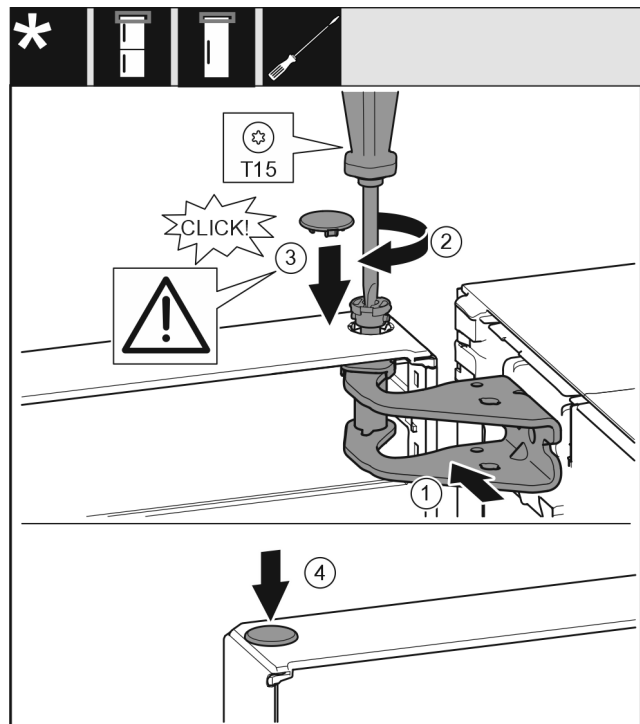

Fig. 22
- Align the top of the door with opening in the bearing bracket. Fig. 22 (1)
- Insert the bolt Fig. 22 (2) and use screwdriver to tighten it.
- Fit the safety cover Fig. 22 (3) to secure the door: Insert the safety cover and check whether the door is resting on it. Otherwise, insert the bolt fully.
- Insert the plug Fig. 22 (4).